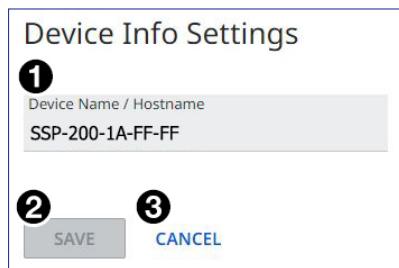

Figure 64. Device Info Settings Dialog Box
This opens the Device Info Settings dialog box (see figure 64).
1. Click into the **Device Name** field (see figure 64, **1**, on the previous page).
The **Device Status** panel (see figure 64, **2**, on the previous page) displays the date, time, and time zone for the connected SSP 200, and allows the user to either synchronize the date and time to a connected PC or set the date and time manually.